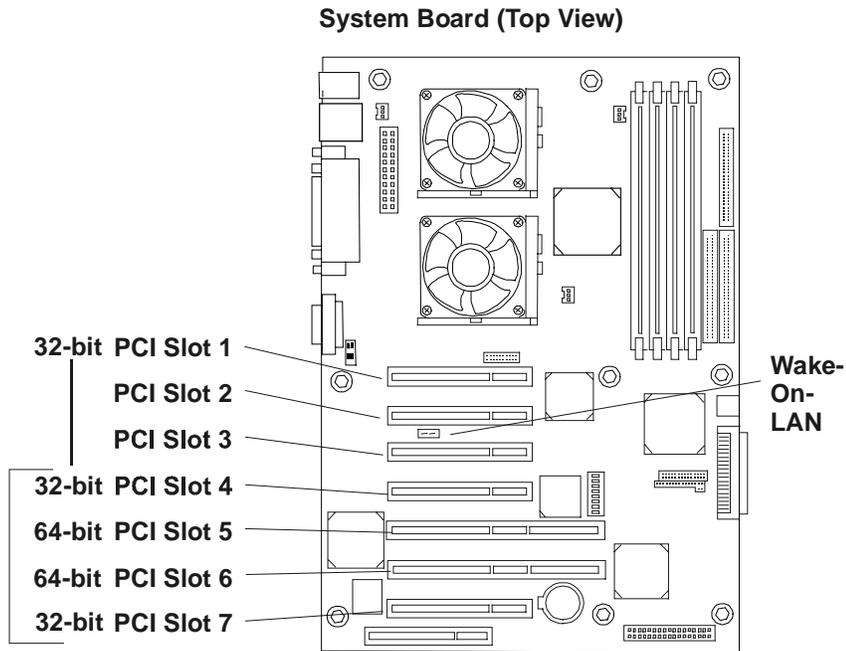

Figure 5-1. Accessory Slots
The NetServer's boot priority (BIOS search order for a boot drive) should be considered when selecting a PCI slot on the system board. This is especially important if you are installing a board that requires an early number in the boot order. The board's boot priority is set by its slot location in the boot order. See Figure 5-1.
6. Identify the accessory slot number to be used. See Figure 5-1.
NOTE Refer to "System Board Layout" in the Appendix A, "Specifications" for connections not shown in Figure 5-1.